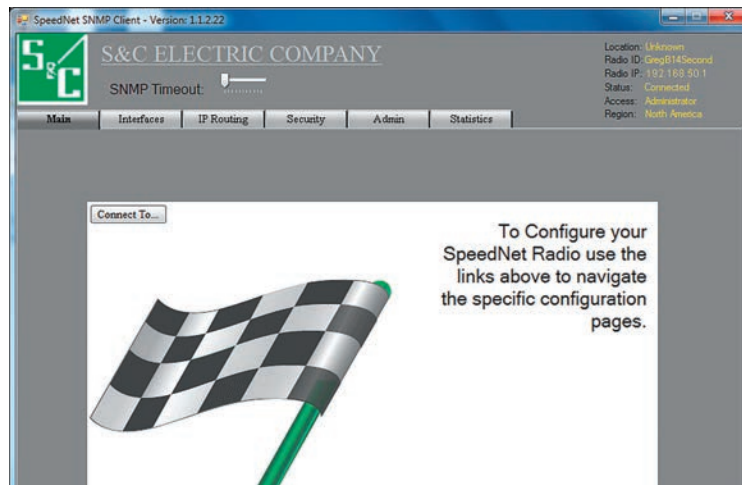

Figure 42. *Main* screen for SpeedNet configuration.
STEP 11. The *Main* screen will open, as shown in Figure 42. Click on the **Interfaces** tab.